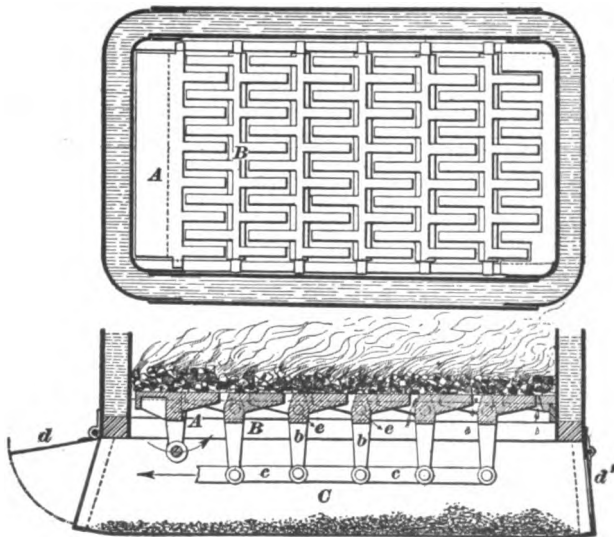

FIG. 8.
**14. Rocking Grate.**—Fig. 8 shows the *fire-grate* and *ash-pan* of an ordinary **rocking grate** used in soft-coal engines. The upper view is a cross-section through the firebox,